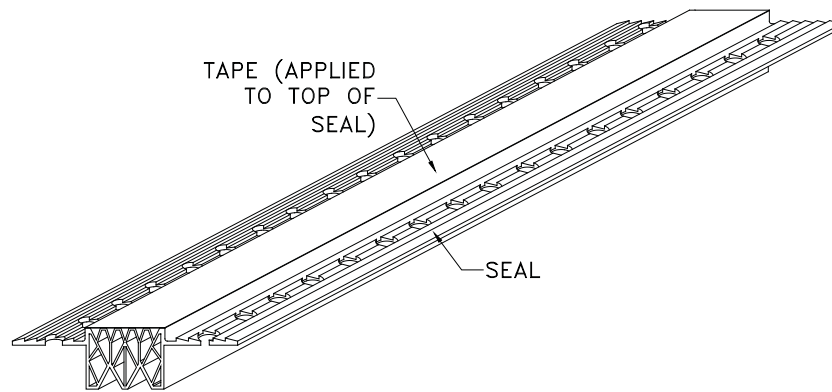

Figure 5
- STEP 3.** Apply masking tape to the top of the seal to protect it from excess Tack Coat, Elastomeric Concrete and the collection of dust and grime during the installation (see Figure 5).